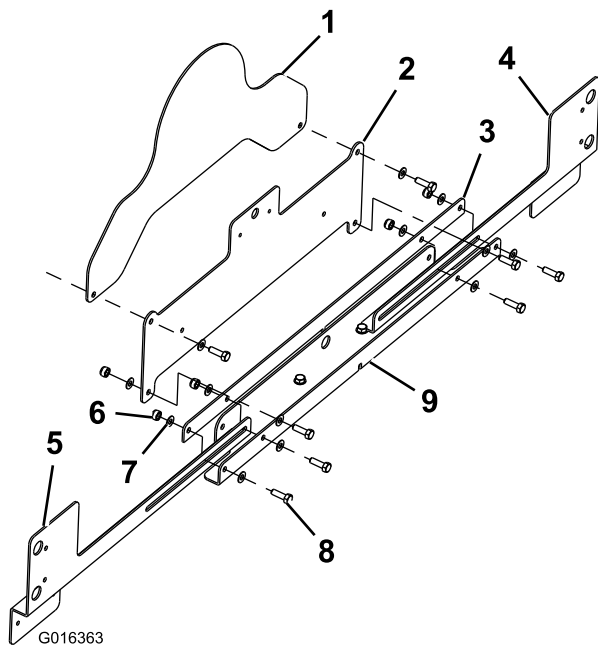

Figure 9
- Assemble the tail board assembly as shown in Figure 9.